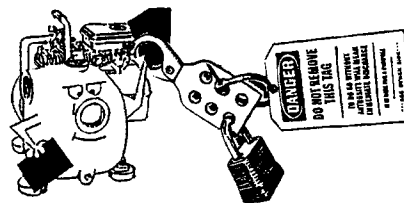

FIG. 11
• **If an unsafe condition cannot be remedied immediately, notify your supervisor and tagout/lockout** the pump on the start switch and/or appropriate, prominent location. (FIG. 11)
**BEFORE ANY** maintenance **work** is to be done, a LOCKOUT/TAGOUT standard device and procedure should be implemented. Prior to removal of LOCKOUT/TAGOUT, the equipment must be fully operational and all personnel accounted for. Except in cases of emergency, the removal of the LOCKOUT/TAGOUT should be done **ONLY** by the initiating person prior to the return to start-up (see page 12, Fig. 11).
**NEVER** perform any work on the equipment unless authorized to do so. (FIG. 11) Before performing any maintenance or repair work, consult the manufacturer's instruction manual for recommended procedures.